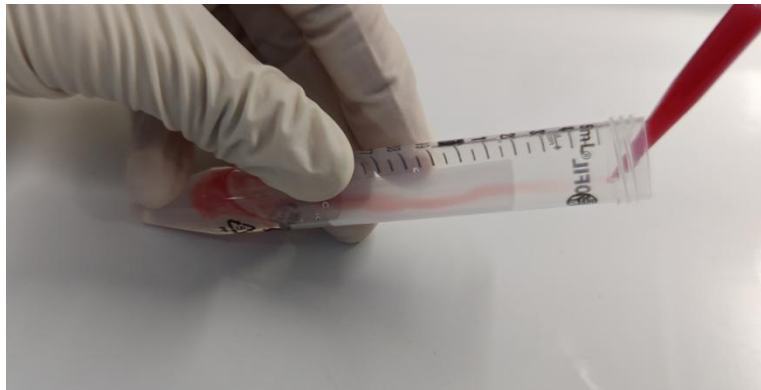
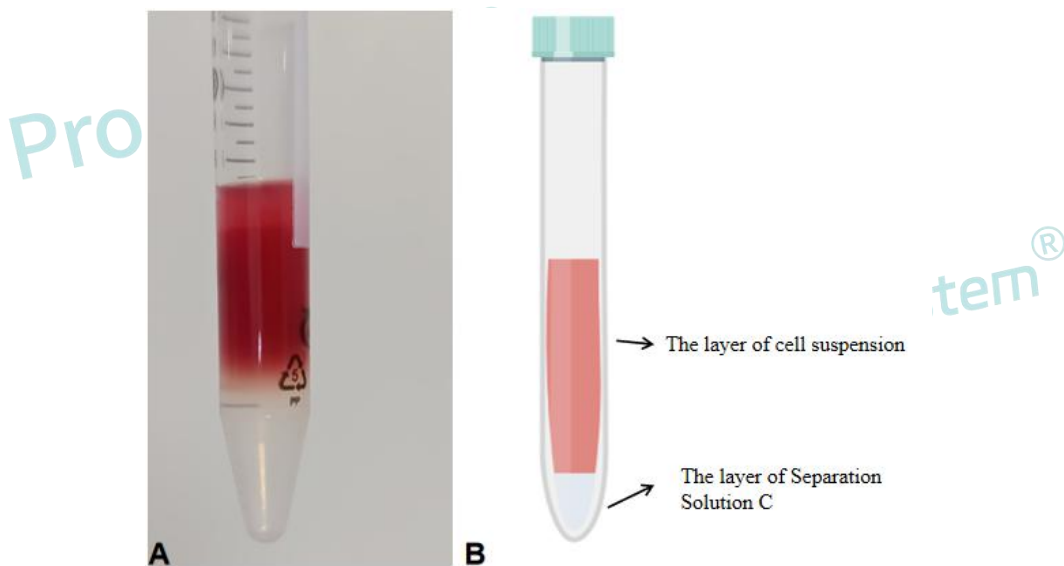

Figure 2. Demonstration of Layered Operation of Cell Suspension and Separation solution
Figure 3. Reference diagram for liquid level stratification
- (1) Centrifuge 400 g of the cell filtrate obtained in the above steps for 10 minutes, discard the supernatant, and retain the precipitate.
- (2) Resuspend the precipitate using 6 mL of **Special Separation Solution A For Mouse Kupffer Cells** ,centrifuge 900 g for 15 minutes.
- (3) Take a new 15 mL centrifuge tube and add 3 mL of **Special Separation Solution C For Mouse Kupffer Cells** for later use.
- (4) After centrifugation, remove the centrifuge tube and discard the supernatant (which consists of hepatic stellate cells a small amount of liver sinusoidal endothelial cells, kupffer cells, and hepatocytes), while retaining the precipitate. Resuspend and precipitate using 6 mL **Special Separation Solution B For Mouse Kupffer Cells**.
- (5) Use a 1 mL pipette to collect the cell suspension from the 50 mL centrifuge tube, tilt the tube with the pipette tip against the wall of the tube, and gently blow out the cell suspension along the tube wall to slowly flow into the liquid surface above **Special Separation Solution C For Mouse Kupffer Cells** (as shown in Figure 2), form two layers of liquid (as shown in Figure 3).